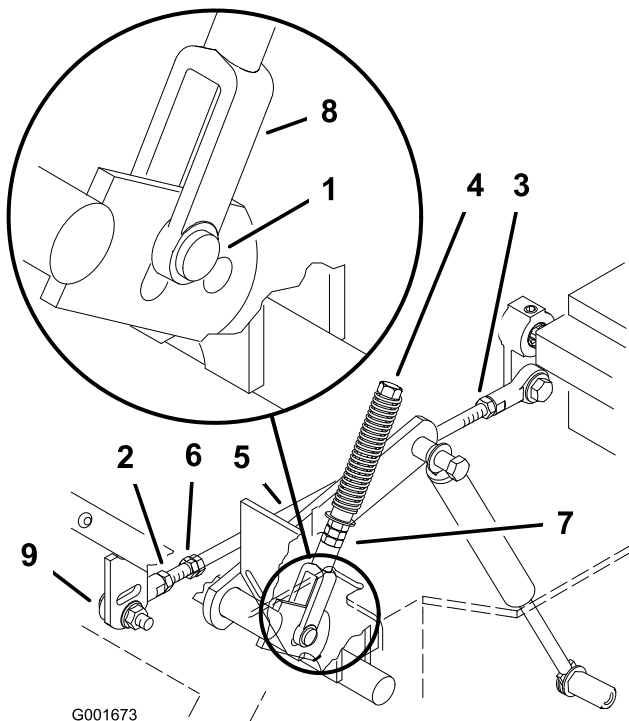

Figure 56
6. Pull the lever back until the clevis pin (on the arm below the pivot shaft) contacts the end of the slot (just beginning to put pressure on the spring) (Figure 56).
8. If adjustment is needed, loosen the nut and jam nut against the yoke (Figure 56).
10. Tighten the nut and jam nut (Figure 56).